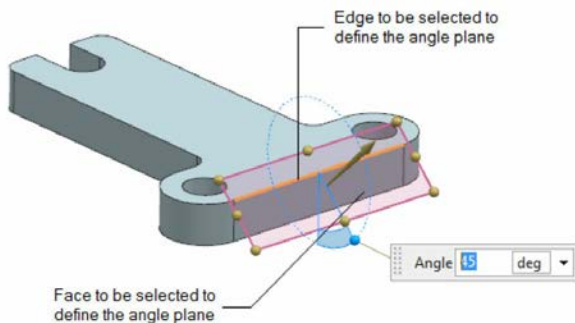

Figure 5-71 Defining a new datum plane
3. First, select the right face of the base feature and then the edge to define the new datum plane, refer to Figure 5-71. On doing so, the **Angle** edit box is displayed.
4. Enter **45** in the **Angle** edit box, as shown in Figure 5-71, and then choose the **OK** button from the **Datum Plane** dialog box.